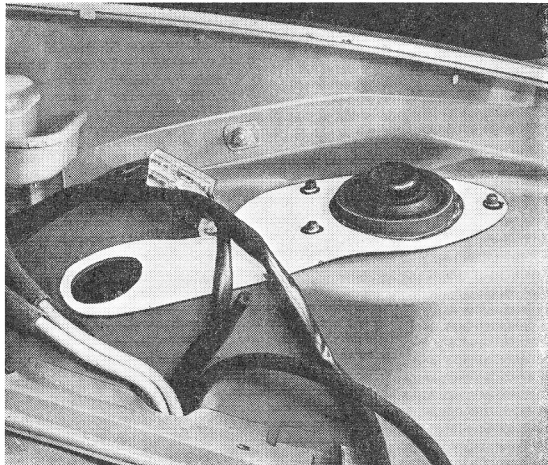

Figure 7
- 8 – Use template and cut hole for exhaust pipe (Figure 7).